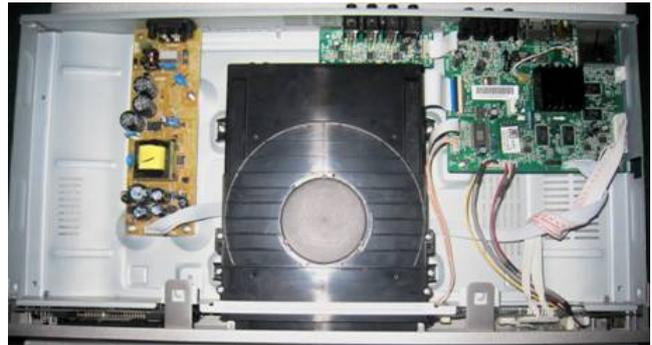

Figure 1
Step1: Remove 8 screws around the Top Cover, and then remove the Top Cover (Figure 1).